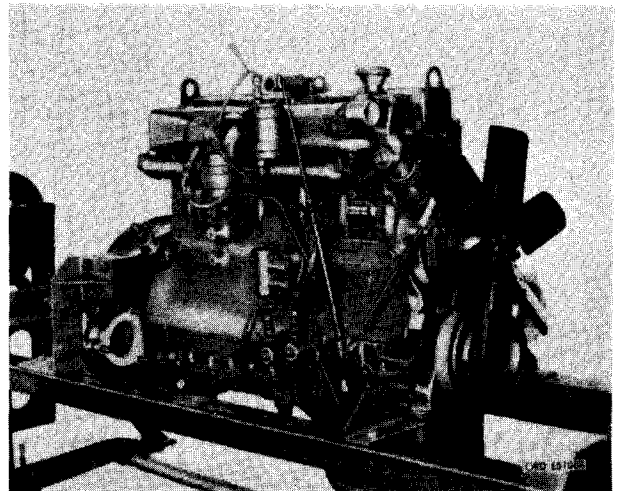

FIGURE 244. PARTIALLY STRIPPED ENGINE IN OVERHAUL STAND - 3/4 RIGHT FRONT VIEW.
a. Figure 244 shows the engine partially disassembled and mounted on overhaul stand - 7950189 and cradle - 7950198.